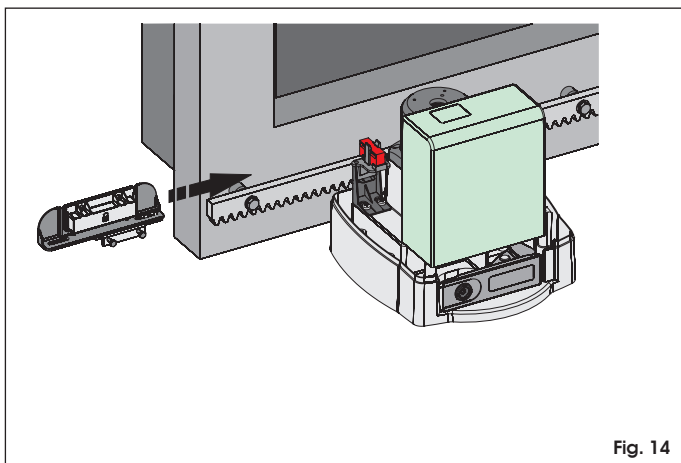

Fig. 14
4. Slide on the rack the magnet with the open padlock in the opening direction, until it is detected (see Figure 14). Then slide the magnet 10 mm forward and secure it temporarily with appropriate screws.